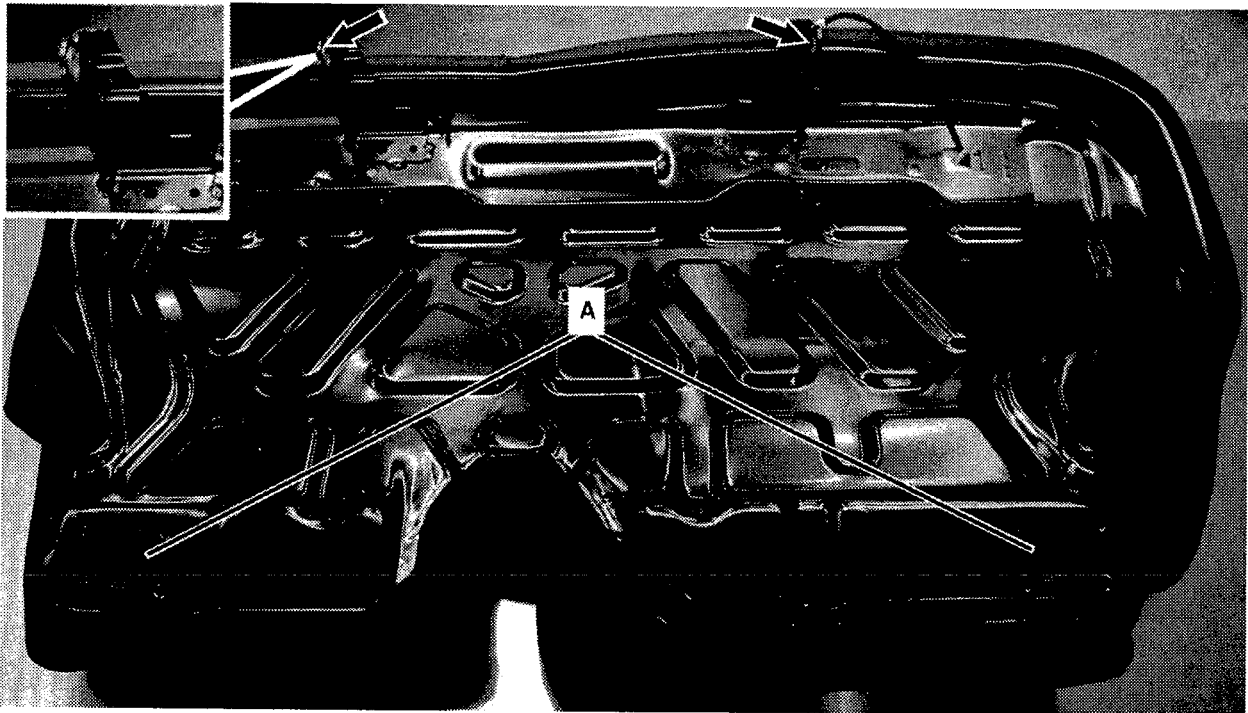

Figure 1
- Be sure to transfer grommets (A, Figure 1) and plastic sleeves with washers (arrows) from "old" seat cushion frame (pan) to "new" seat cushion frame (pan).